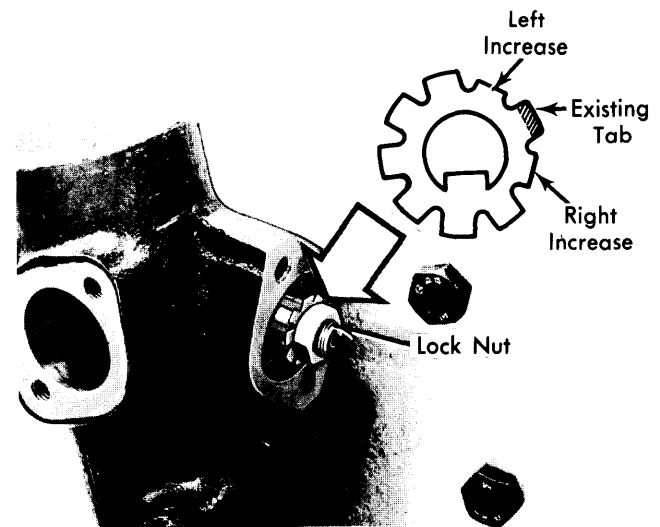

Fig. 2 Lock Washer Adjustment
**Adjusting** – 1) Turn off engine and remove lock nut and lock washer from pinion lower bearing (See Fig. 2) Lock washer will have one tab bent down to lock adjustment nut (bearing race).